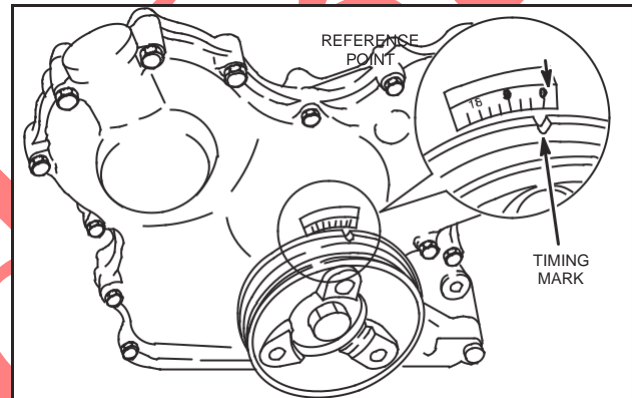

Fig. 2 – Align Timing Marks
- a. Rotate crankshaft until timing mark on pulley is aligned with reference point on timing cover, Fig. 2.